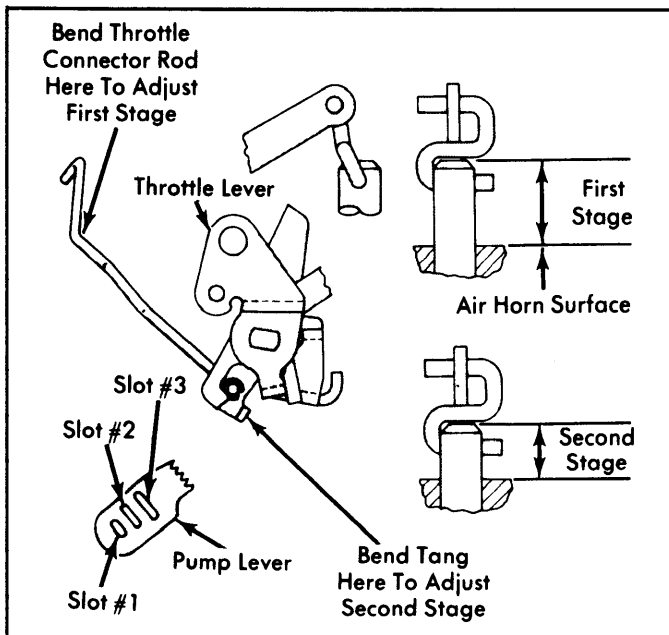

Fig. 17: Accelerator Pump Stroke Adjustment
2) If measurement is not to specification, adjust plunger height by bending throttle connector rod. See Fig. 17.